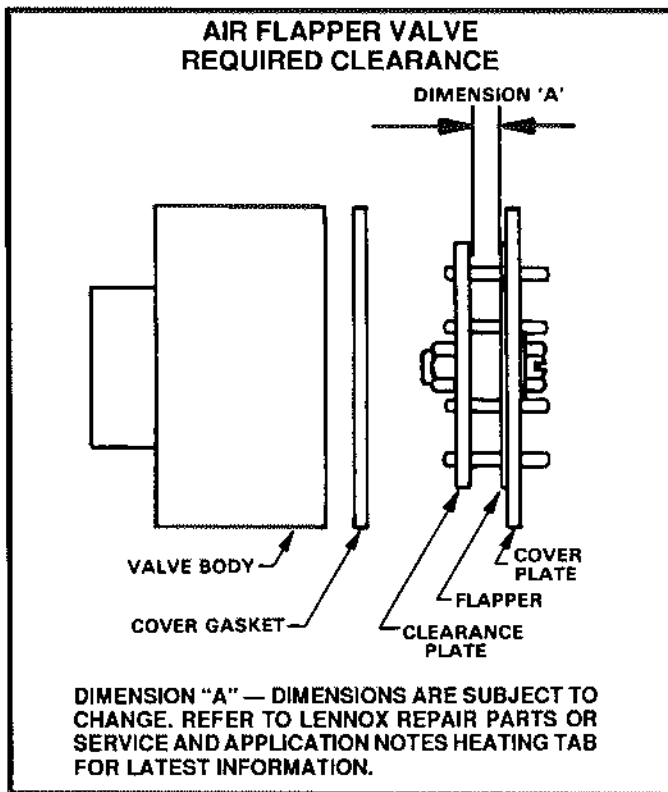

FIGURE 33
- 5- To find potential warpage in the plates, check for the required clearance between the flapper and back plate in several places around the circumference of the valve. See figure 33. Use a feeler gauge, starting small and working up to the clearance dimension until the gauge is just about snug. BE VERY CAREFUL NOT TO DAMAGE THE FLAPPER MATERIAL BY FORCING THE FEELER GAUGE.